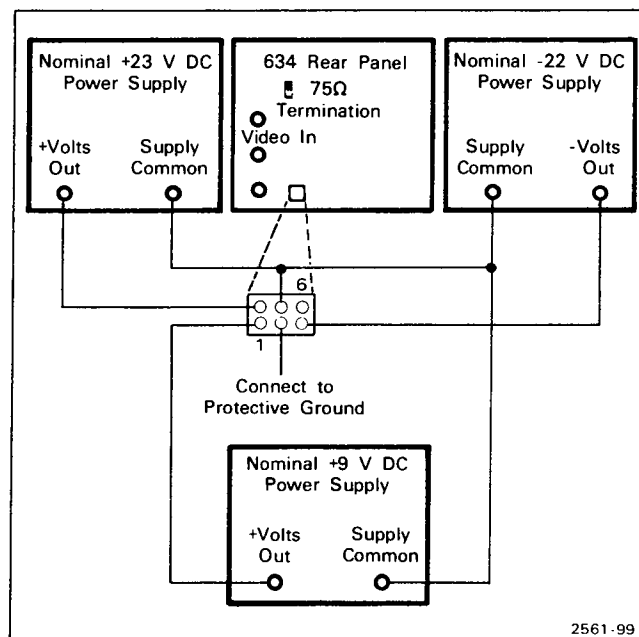

Figure 6-1. 634 Option 20 external power supply connections.
*For Option 20 Monitors: Connect your instrument to the DC Power Supplies as shown in Figure 6-1.*